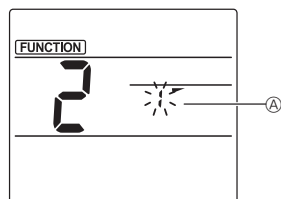

Fig. 3-2
② Selecting the vane number (Fig. 3-2)